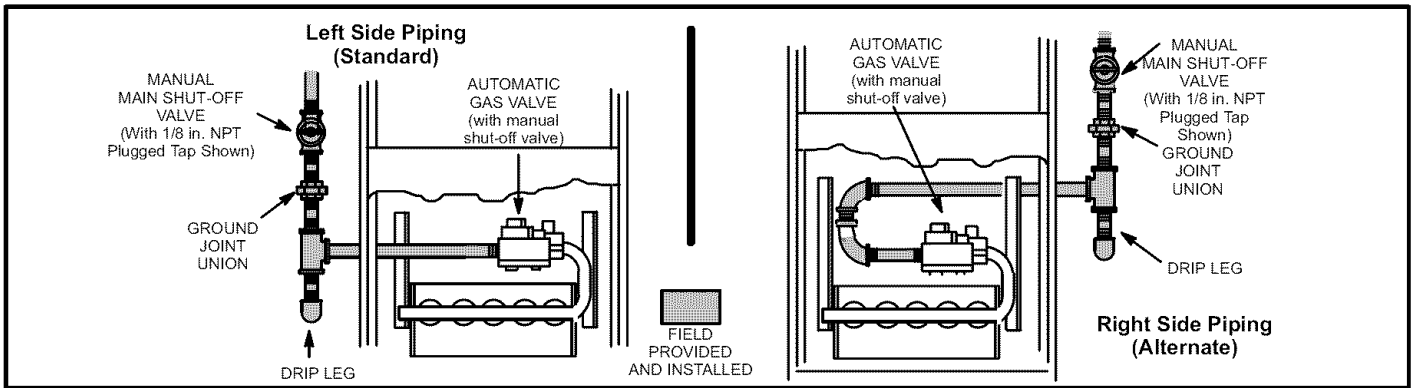

FIGURE 19
*NOTE - Install a 1/8 inch NPT plugged tap in the field piping upstream of the gas supply connection to the unit. The tap must be accessible for test gauge connection. See figure 19.*